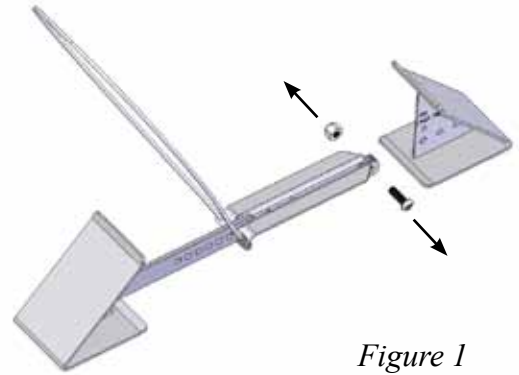

Figure 1
- 1) Remove the chock and other parts from the packaging. Remove the bolt and nut holding the double arms to the wedge using the hex key provided for adjustments, and a 9/16" socket. *See Figure 1.*